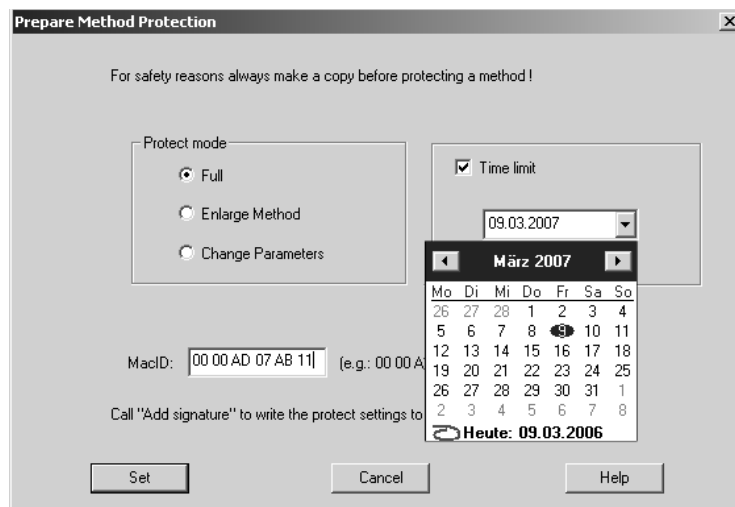

Figure 109: Prepare Method Protection
- 5) Click on the *Protect Method* button. The dialog box shown in figure 109 opens. Enter the MAC ID of the spectrometer of user B in the corresponding entry field (with the blanks as shown in the figure 109).
Only the protect mode *Full* allows for defining a time limit for the use of a protected method (i.e. after the time limit has run out the method in question can no longer be used). The default time limit is set to one year. If you want to change this default value, you can either enter the desired date of expiry manually or specify it interactively using the calendar shown in figure 109. To open the calendar click on the arrow button of the drop-down list.